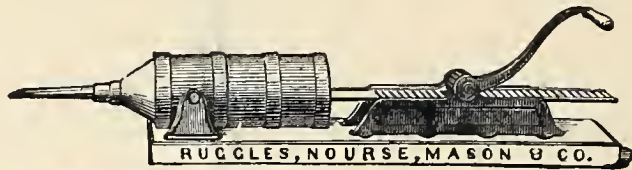

Fig. 472.—Sausage-Stuffer, No. 1.
**Sausage-Stuffers, Nos. 1, 2, and 3,** represented by Fig. 472, are suitable for hotel and butchers' use.